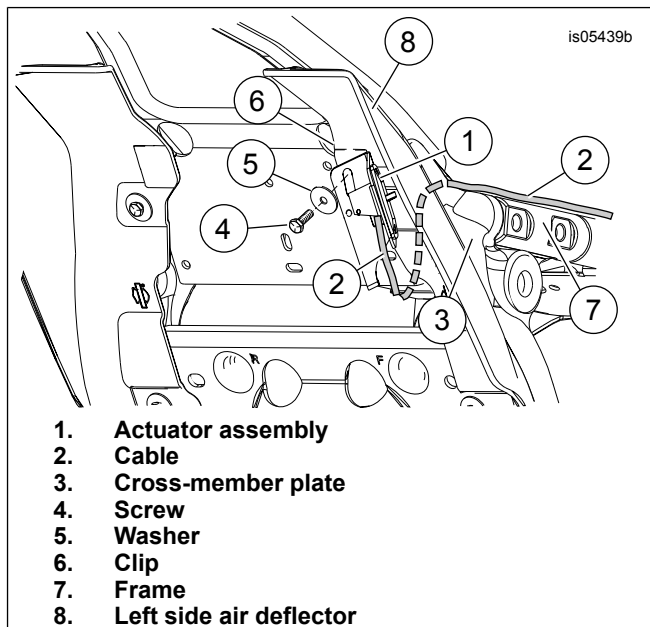

Figure 9. Installing Actuator Assembly with Mid-Frame Air Deflector
12. **Models with Mid-Frame Air Deflector:** See Figure 9.
a. Slide the flat side of the actuator assembly (1) behind the spark plug wires.
c. Secure with screw (4) and washer (5). Tighten.